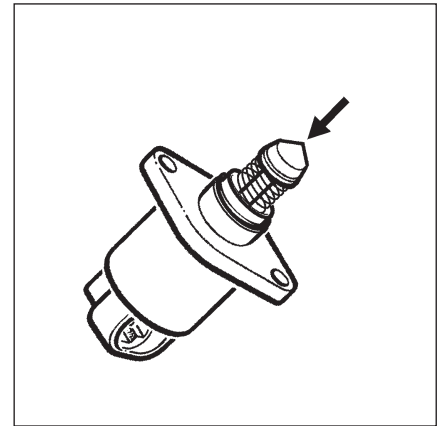

Fig. 3 Stepp motor
Notes: The adjusting cone (arrow), Fig. 3 of the stepp motor must not be removed from the housing or threaded rod due to a risk of damage.
- Apply light axial pressure to the end of the adjusting cone with the thumb (arrow), Fig. 3 and subsequently switch on the ignition.